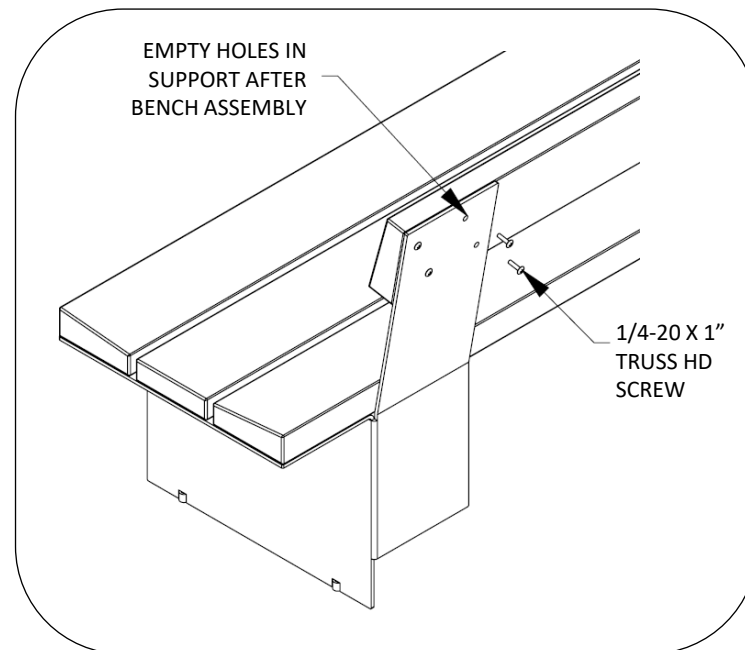

Fig. 9 – optional screw installation
After assembly, some supports may have holes with no screws installed, see Fig. 9. These can be left empty with no loss of bench integrity. However, optional screws may be installed in these locations for cosmetic purposes.
3. Install 1/4-20 x 1" screws, see Fig. 9.